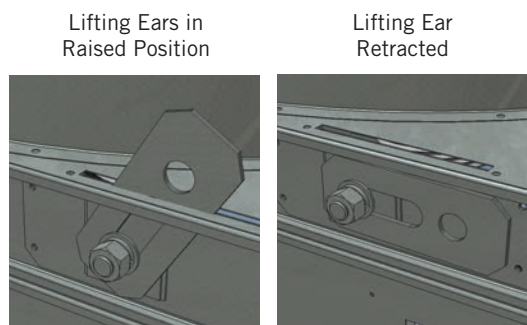

Figure 2. Lifting Ears
4. After the lower section of the unit is in place, retract the lifting ears (where applicable) inside the unit to avoid interference when the upper section of the unit is positioned as illustrated in **Figure 2**.
4. After the lower section of the unit is in place, retract the lifting ears (where applicable) inside the unit as illustrated in **Figure 2** on **page 5** to avoid interference when the coil and plenum sections of the unit are positioned.